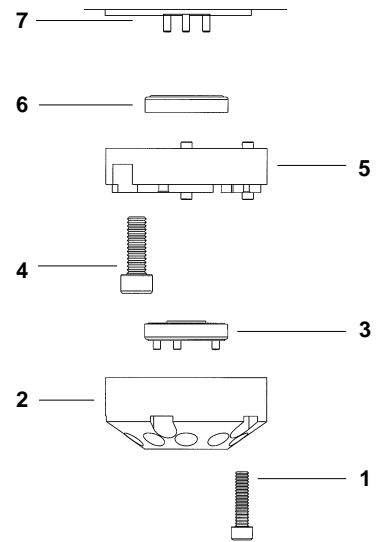

Fig. 11. Exploded view of valve.
- (1) To disassemble the valve, refer to Figures 11 and 12 and proceed as follows:
- (2) With the Hex Key provided, remove the Stator Screws (1) from the Stator (2).
- (3) Remove the Stator and Stator Face Assembly (3) from the Stator Ring (5). The Stator Face Assembly usually remains on the Stator.
- (4) For 10-port valve, use the Hex key to remove three Stator Ring Screws (4) from the Stator Ring.
- (5) Remove the Stator Ring (5).
- (6) Remove the Rotor Seal (6) from the valve Body (7). The Rotor Seal is mounted on three pins, and can be pulled off.
- (1) Refer to Figures 11 and 12 and proceed as follows:
- (2) Mount the new Rotor Seal (6) with the slots facing the Stator (2). The three pins (8) on the Shaft Assembly fit into the mating holes (9) in the Rotor Seal only one way.
- (3) Replace the Stator Ring (5) so the two short pins on the ring enter the mating holes in the Body (7).
- (4) For 10-port valve, replace and tighten the three Stator Ring Screws (4). Tighten each an equal amount until the Screws are fingertight, then turn another half turn.
- (5) Mount the new Stator Face Assembly (3) onto the Stator (2). The three pins on the assembly fit into the mating holes in the Stator only one way.